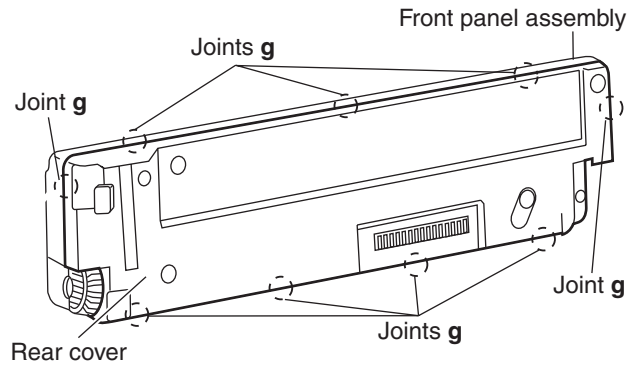

Fig.11
- (2) Release the nine joints **g**, the front panel assembly and rear cover become separate. (See Fig.11.)